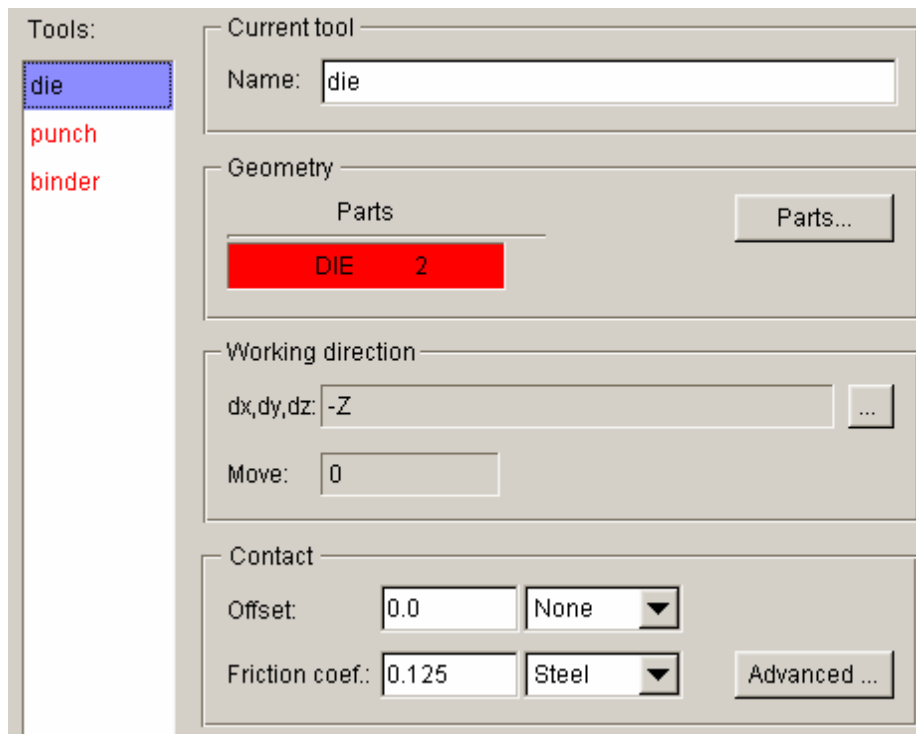

Figure 1.18 Die definition interface
- Click **Exit** button to return to tool definition interface. Now, you can observe the font color of **die** is changed to BLACK. See Figure 1.18.